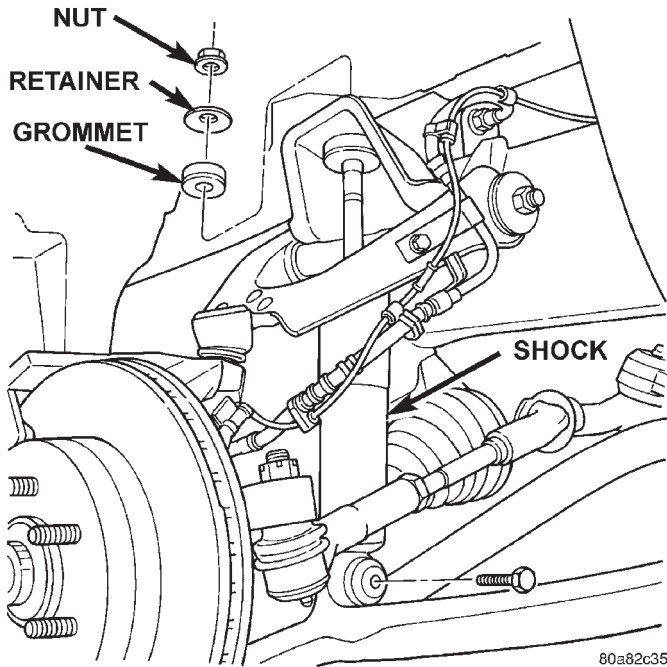

Fig. 2 Shock Absorber
(1) Raise and support vehicle.
(2) Remove the upper shock absorber nut, retainer and grommet (Fig. 2).
(3) Remove the lower bolt and remove the shock absorber.